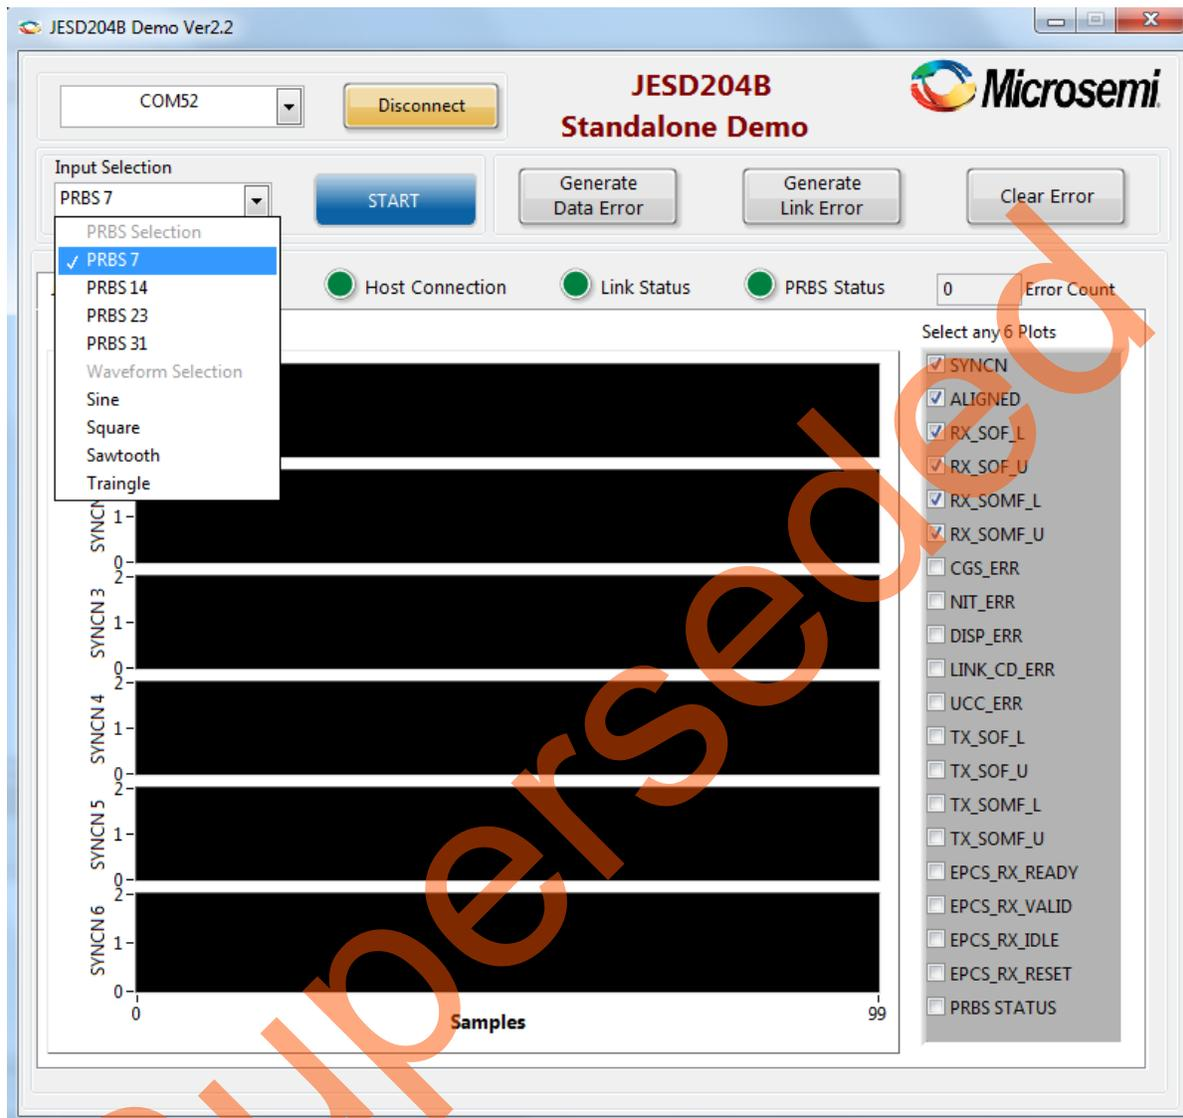

Figure 14 • PRBS Pattern Selection
- Select the pattern to be transmitted using the **Input selection**. Select one of the patterns in PRBS selection, Select **PRBS 7** as shown in Figure 14.